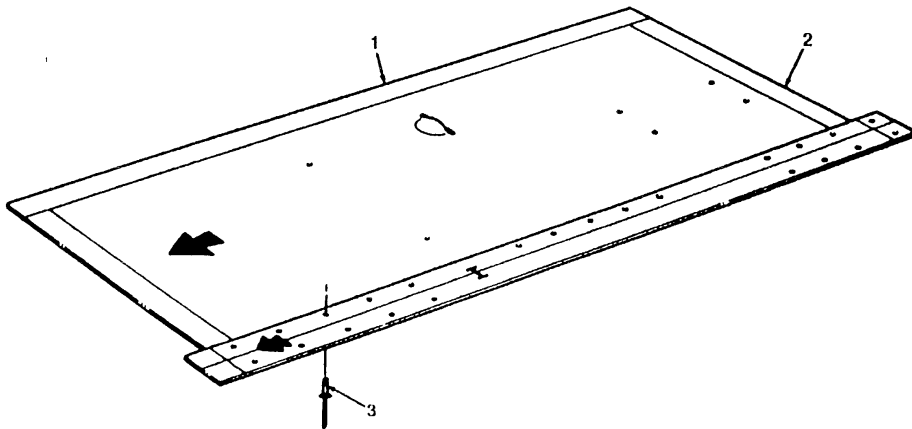

FIGURE 3-41
5. Position metal strip "I" (2) to insert panel (1) and secure with thirteen NSN 5320-01-271-6357 rivets (3). (see figure 3-41)
6. Remove adhesive residue and clean edges on metal strip "I" (2) and insert panel (1).